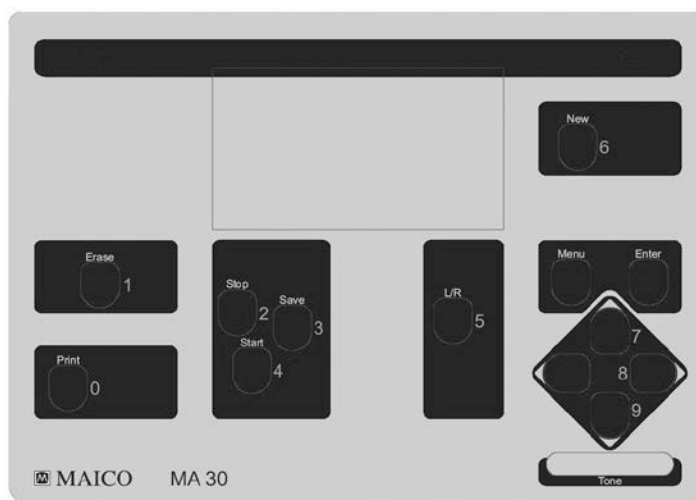

Figure 2: Numbers at the front panel
To start a new test, press the **NEW** button (15). The MA 30 will display the automatic assigned patient ID number. Press **ENTER** (13) to confirm this number and the main test screen will be displayed with a blank audiogram or table ready to start a new test. If you would like to enter a customized ID number, press the **NEW** button (15), then enter an ID number up to 9 digits using the numbers displayed next to the keys on the front panel of the instrument (Figure 2).
If you would like to enter a customized ID number, press the **NEW** button (15), then enter an ID number up to 9 digits using the numbers displayed next to the keys on the front panel of the instrument (Figure 2).
number up to 9 digits using the numbers displayed next to the keys on the front panel of the instrument (Figure 2).